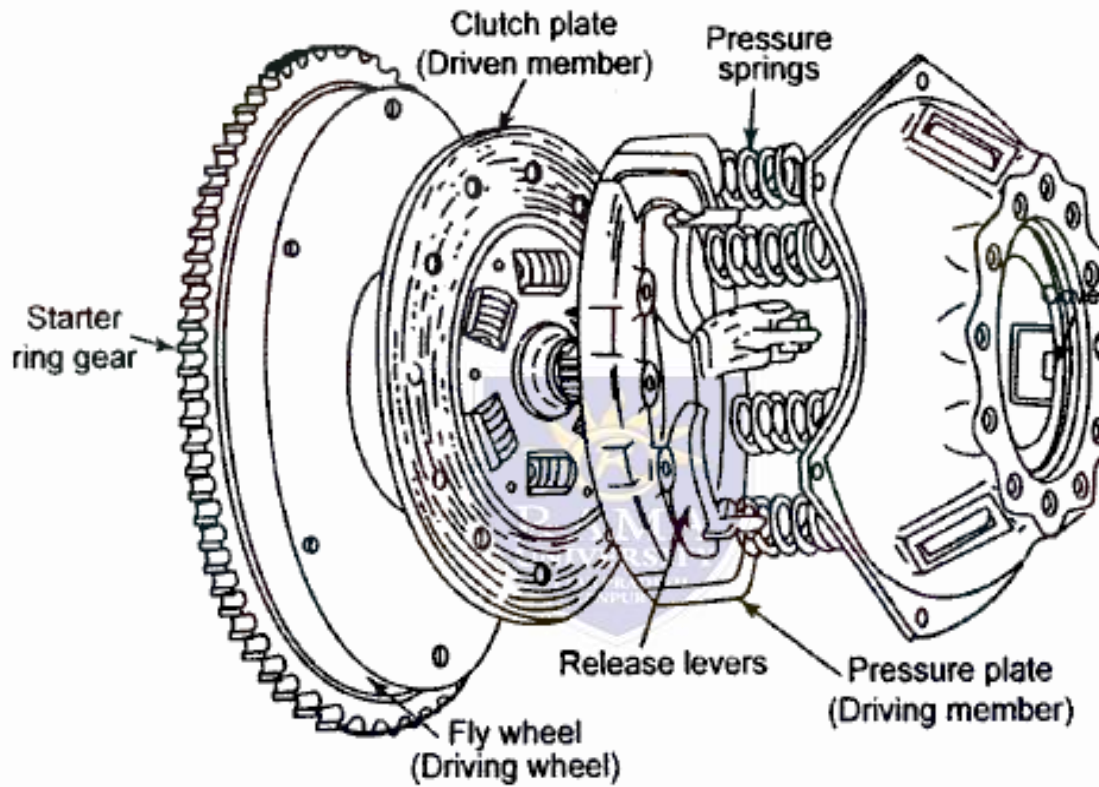

Figure 3.5 Clutch plate assembly
- Figure 3.5 shows the view of the clutch cover assembly. In general, the clutch plate revolves with the flywheel. But when the clutch is disengaged, the flywheel as well as the pressure plates will be forced to rotate independently from driven plate and driving shaft.